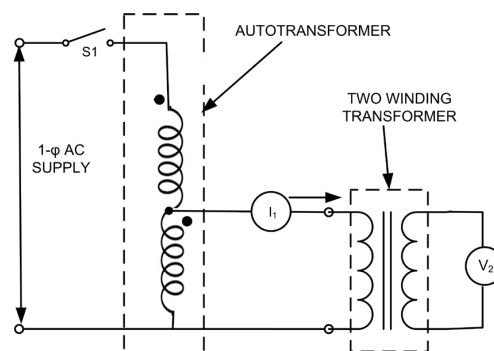

Fig. P1.1: Circuit diagram to determine the permeability of magnetic material
1. Connect the circuit as shown in Fig. P1.1.